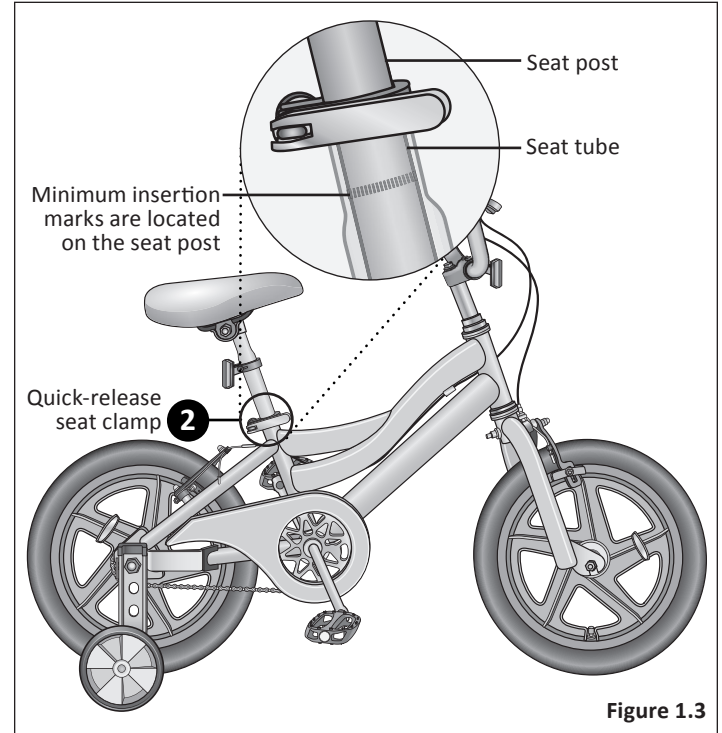

Figure 1.3
- 2 Ensure the seat post's **minimum insertion marks** are **not** visible above the seat clamp and the clamp is locked in place. **Figure 1.3**